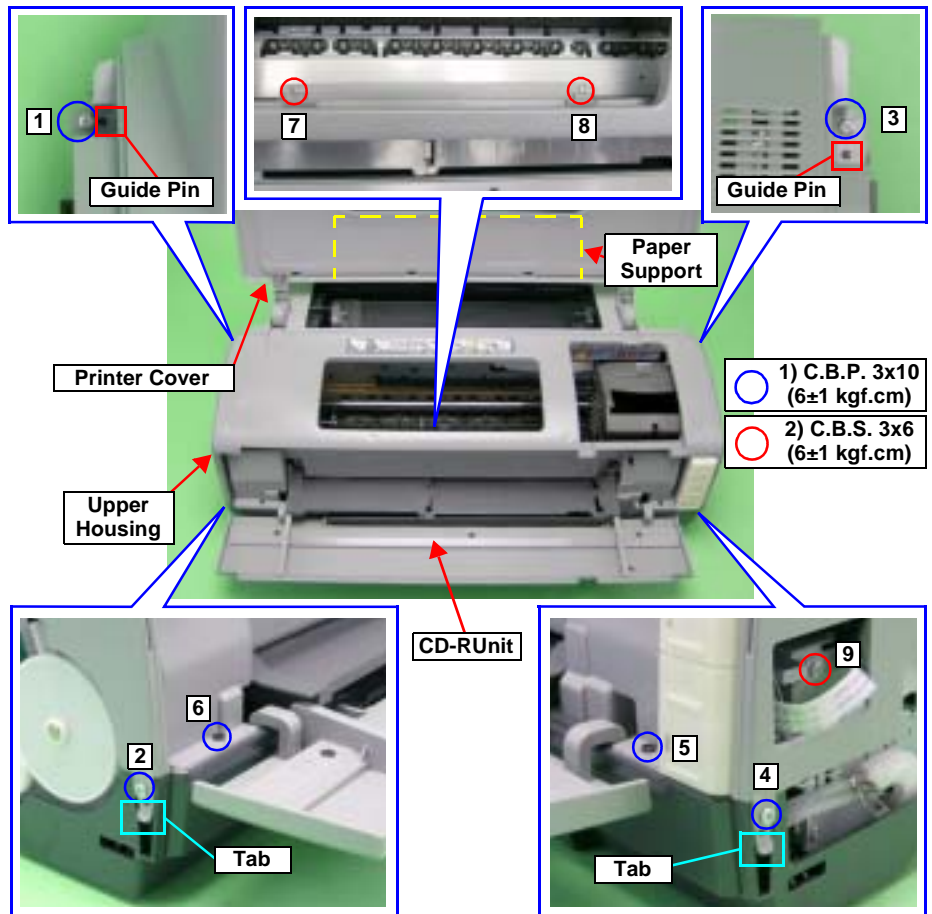

Figure 4-7. Screws that Secure the Upper Housing
6. Remove the Guide Pins from the two Tabs shown in Figure 4-7., and remove the Upper Housing upwards.
- Align the Guide Pins with the positioning holes on the Upper Housing. See Figure 4-7.
- Referring to Figure 4-7., correctly route the Panel FFC and CD-R Sensor Cable.
- Tighten the screws in the order shown in Figure 4-7.